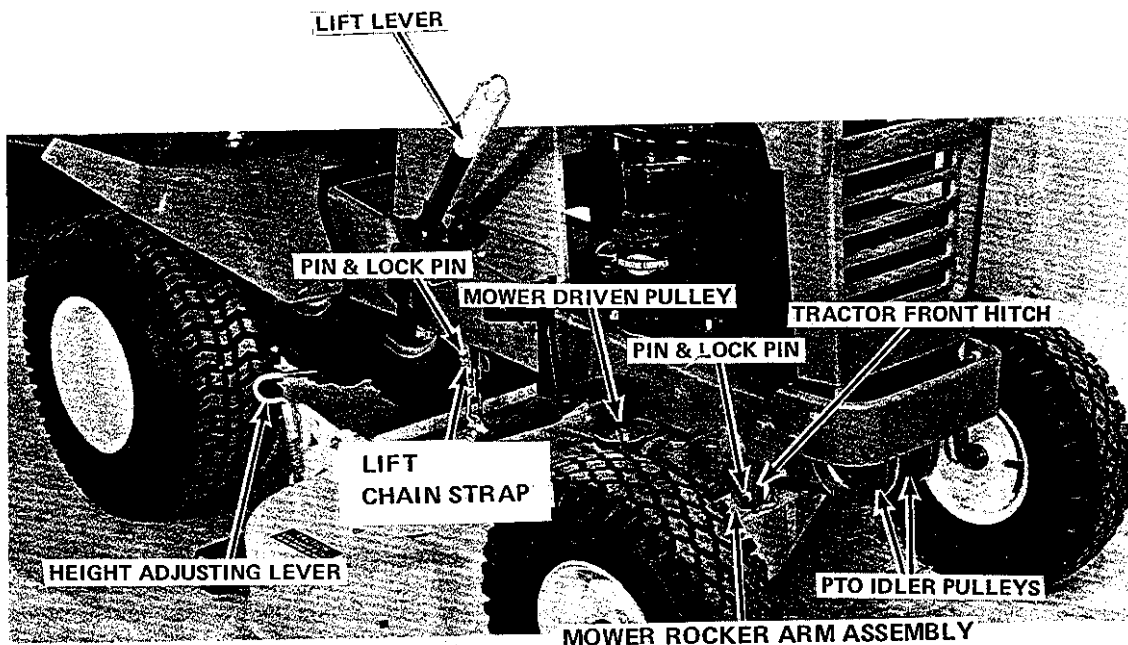
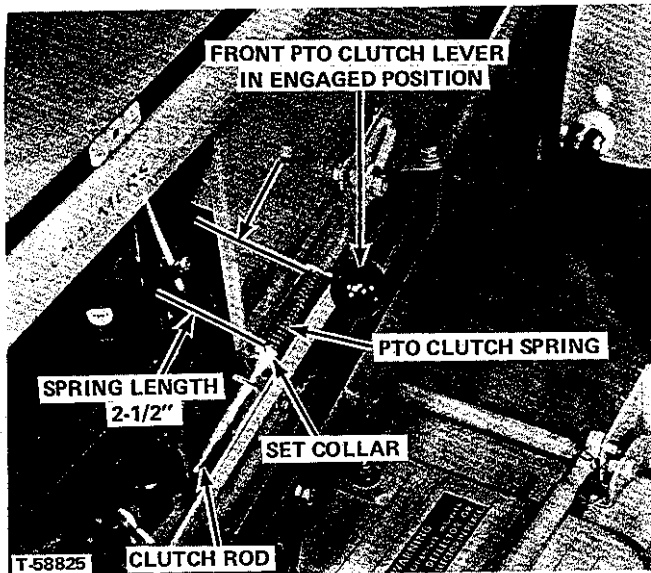
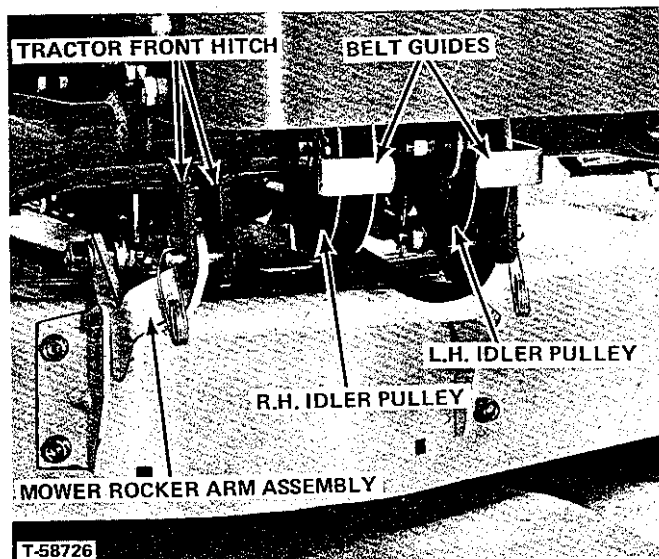
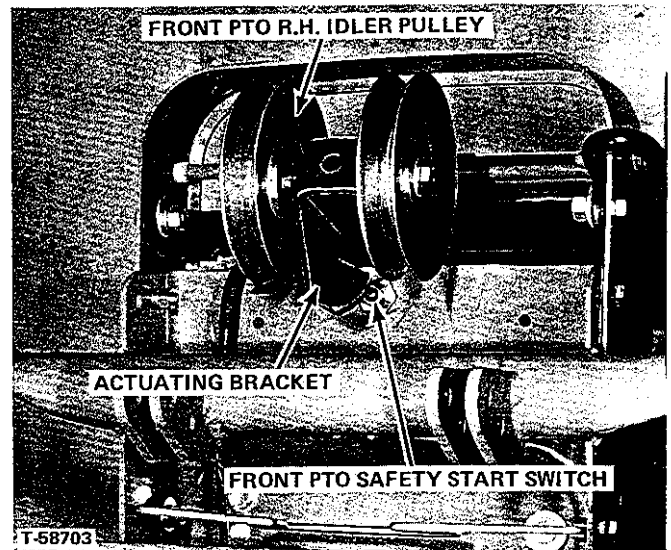

Figure 7.
Figure 9.
Figure 10
Figure 11.
2. See Figure 7. Move the lift lever forward and attach the lift chain strap to the inner lift arm with pin and lock pin.
3. Disengage the tractor front power take off lever, (Figure 10), by pulling it all the way to rear. Place the mower drive belt around the mower drive pulley on the engine (Figure 9), then over the PTO idler pulleys at the front end of tractor. Put the free end of mower drive belt back over the mower driven pulley, (Figure 7). If the idler pulleys have belt guides position them as shown in (Figure 11).
The bracket, (See Figure 11), should be readjusted as follows every time the idler is loosened:
5. Adjust set collar on the PTO clutch rod to provide 2-1/2 inches of spring length when PTO drive belt is on and clutch lever is in the forward, fully engaged, position (Figure 9).
3. Lower the mower by pushing lift lever forward. Remove lock pin and pin from lift chain strap and lift arm (Figure 7). Store pin and lock pin in chain strap and leave with mower.
4. Disconnect the mower rocker arm assembly from the tractor front hitch and lower the mower to the ground. Store the pins and lock pins in the mower rocker arm assembly (Figure 10).